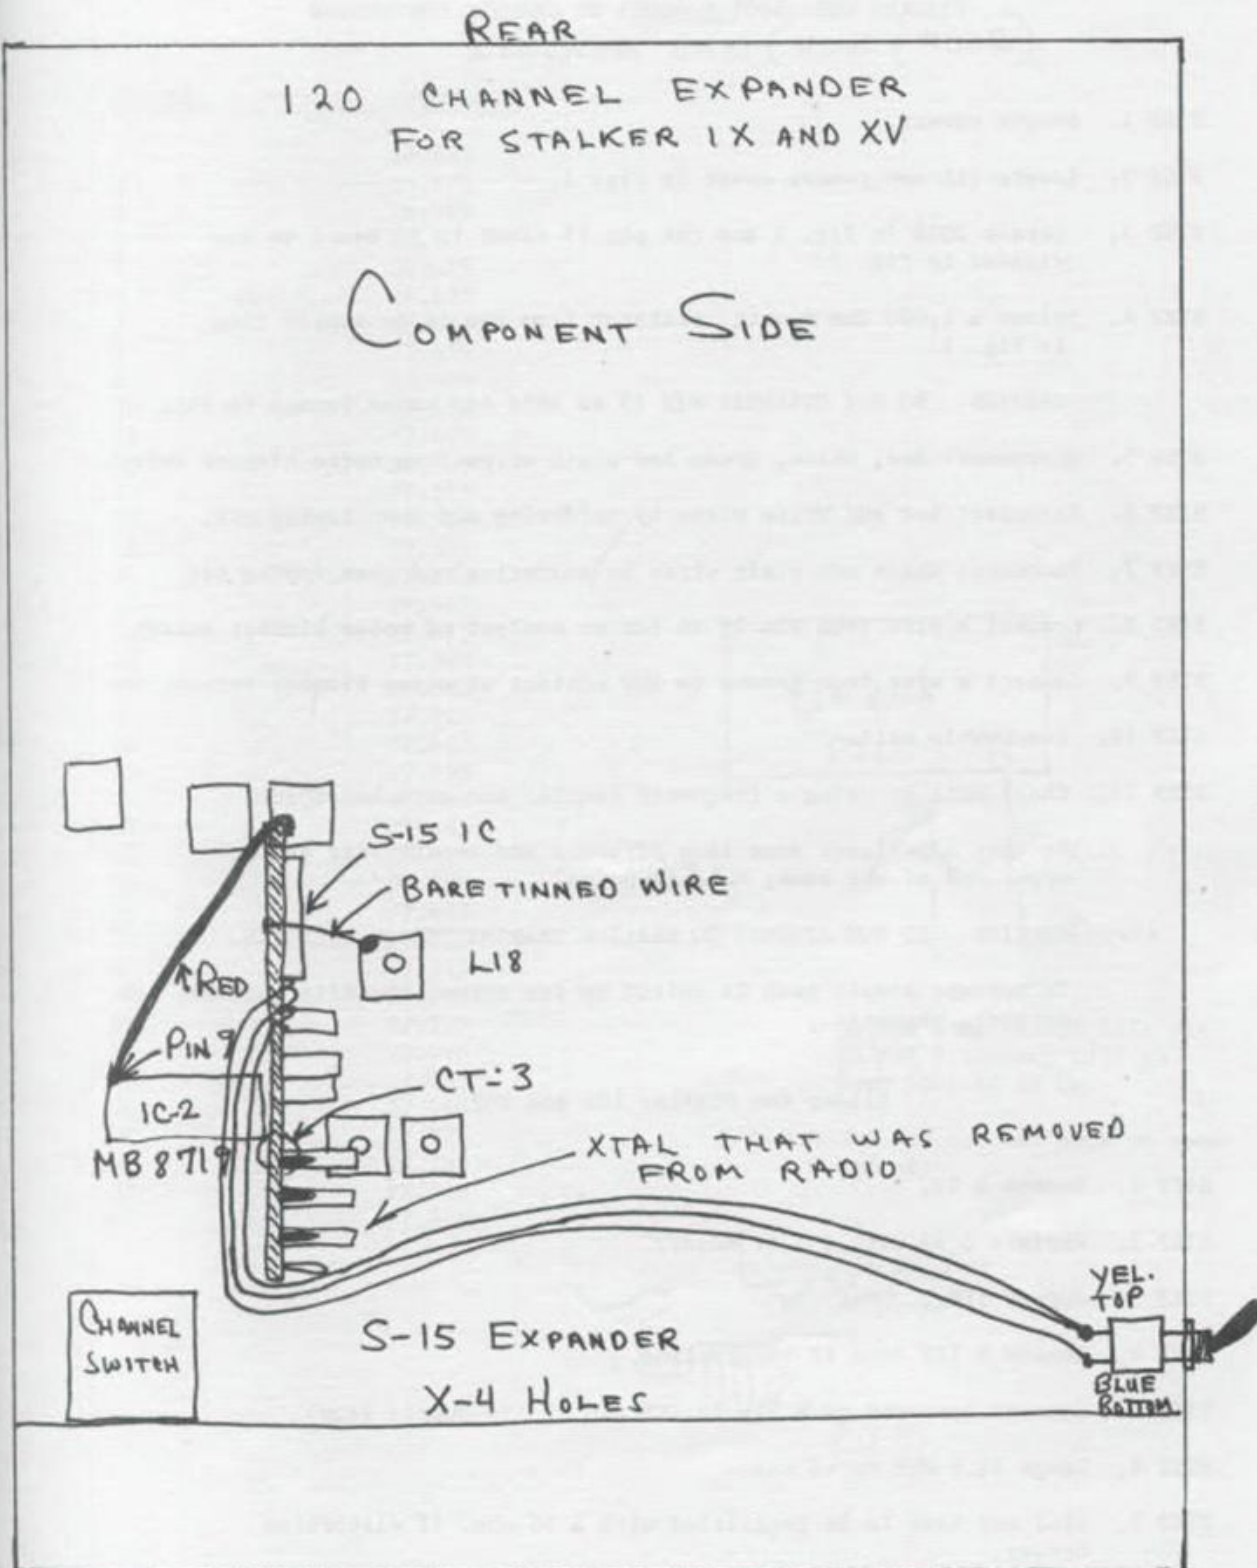

FIGURE 1
- STEP 2. Locate PLL and remove cover in Fig. 1.
- STEP 3. Locate D858 in Fig. 1 and cut pin 19 close to PC Board as indicated in Fig. 2.
- STEP 4. Solder a 1,000 Ohm $\frac{1}{4}$ watt resistor from pin 19 to supply line in Fig. 1.